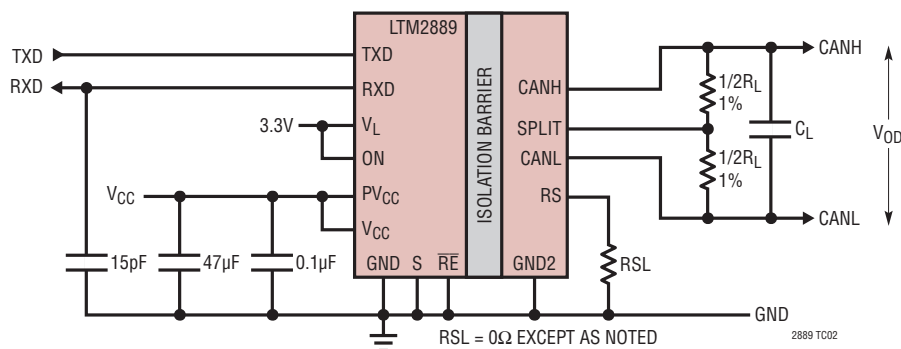

Figure 2. All Bus Pin Switching Characteristic Measurements Except Receiver Enable/Disable Times
**SWITCHING CHARACTERISTICS** The ● denotes specifications which apply over the full operating temperature range, otherwise specifications are at  $T_A = 25^\circ\text{C}$ . Unless otherwise noted, the following conditions apply:  $PV_{CC} = V_{CC} = 3.3\text{V}$  for the LTM2883-3,  $PV_{CC} = V_{CC} = 5\text{V}$  for the LTM2883-5,  $V_L = 3.3\text{V}$ ,  $GND = GND2 = S = RE = RS = 0\text{V}$ ,  $ON = V_L$ . Figure 2 applies with  $R_L = 60\Omega$ ,  $C_L = 100\text{pF}$ ,  $R_{SL} = 0\Omega$ . Figure 10 applies for  $V_{CC2} = 3.3\text{V}$ ; otherwise ADJ is floating.
| V SYM                                             | Driver Symmetry (CANH + CANL – 2V O(R) ) (Dynamic Peak Measurement) | R L = 60Ω/Tol. < 1%, C SP LIT = 4.7nF/5%, f TXD = 250kHz, Input Impedance of Oscilloscope: ≤ 20pF/≥ 1MΩ (Figure 2) |                         |   | ●   |      | ±500 | mV    |